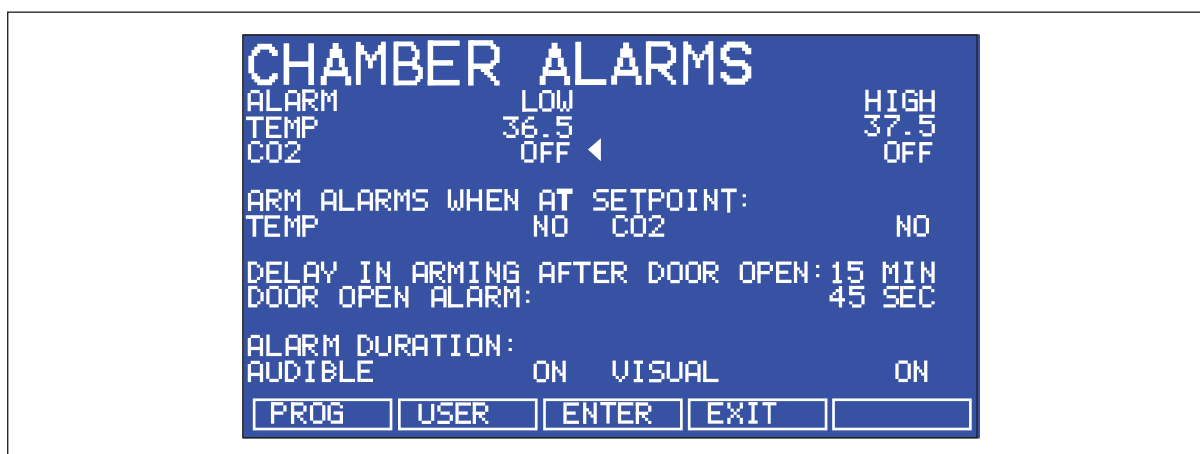

Fig. 5-7: *CHAMBER ALARMS* screen
To enter the CHAMBER ALARMS menu screen, press the ALARM function key on the main display. The *CHAMBER ALARMS* programming screen (see Fig. 5-7 on p. 32) allows the various alarm options to be selected and modified. Press the ▲ or ▼ direction key to move around the options and the ◀ or ▶ direction key to adjust values. The temperature and CO₂ High and Low Alarm setpoints automatically adjust to within ± 0.5 of the temperature and CO₂ setpoints. The alarm setpoints can also be manually adjusted.
2. Select *NO* for both *TEMP* and *CO₂* (see Fig. 5-7 on p. 32).
Choose the option *DELAY IN ARMING AFTER DOOR OPEN* and select the desired delay (15 minutes in the sample screen (Fig. 5-7 on p. 32)) to allow for temperature and CO₂ recovery after the door has been opened.
A *DOOR OPEN ALARM*: can be adjusted, choosing from seven preset durations (45 seconds in (Fig. 5-7 on p. 32)) to warn of an improperly closed door.